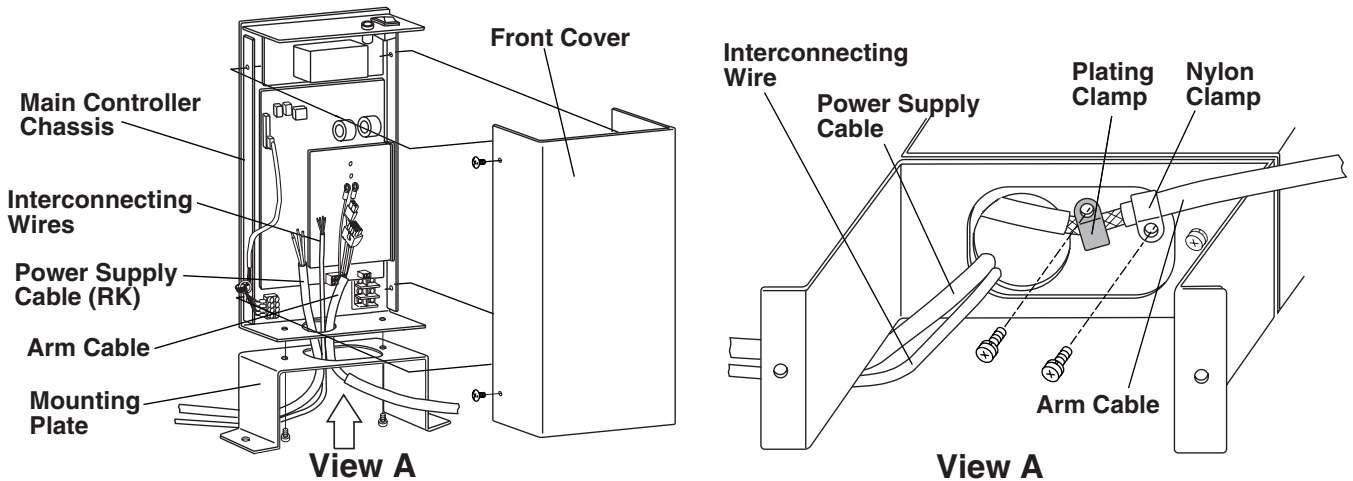

Fig.3-23B Fixing Main Controller (RK Type)
- Attach the mounting plate to the main controller with 2 screws. The direction of the mounting plate should be as Fig 3-23B in order to attach two wire clamps to the bottom of the main controller.
- Arm cable should be fixed by 2 clamps, one nylon clamp (insulated type) for holding the arm cable and one plating clamp (conducting type) for shielding wire to be grounded. **(Fig. 3-23B)**